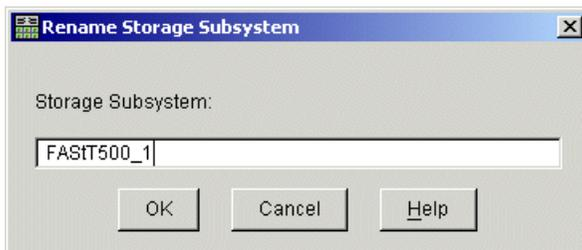

Figure 5-11 Rename Storage Subsystem
2. The window that appears allows you to enter a name for your storage subsystem, as shown in Figure 5-11: